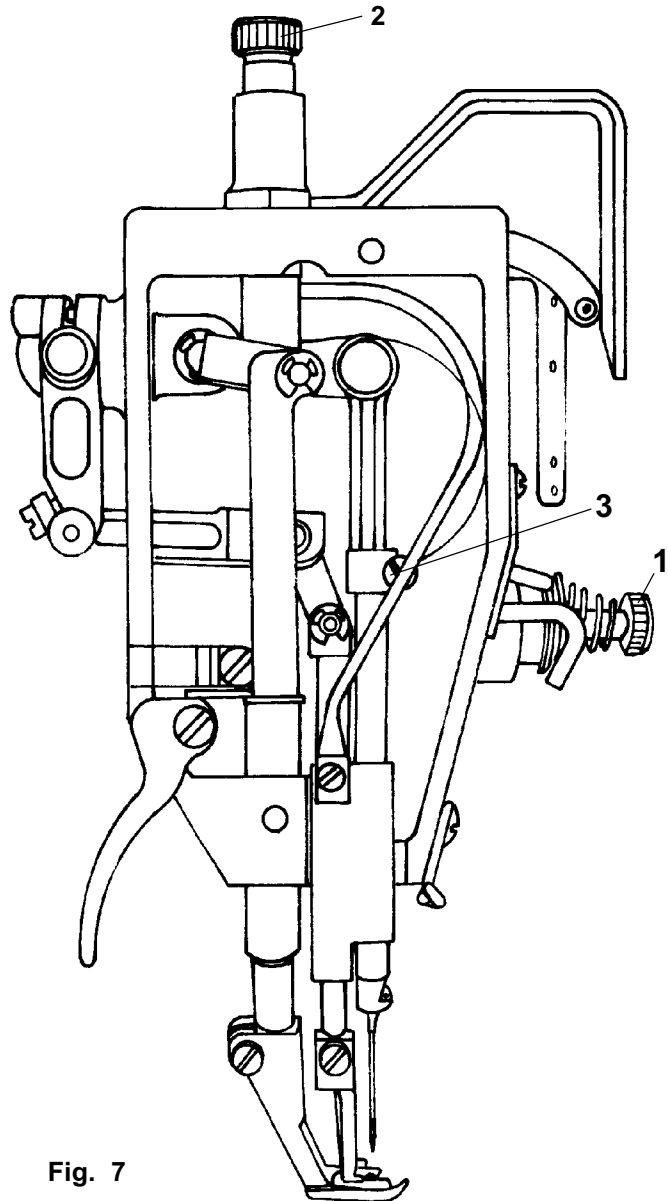

Fig. 7
3. Thread tension adjustment (Fig. 7, 7a)
4. To adjust the presser bar pressure (Fig. 7)
9. To adjust the needle bar height (Figs. 7 and 10)
The hook must be so interrelated with the needle that at the moment when the hook point begins to take up the upper thread loop, the upper edge of the needle eye comes to lie about 1.5 mm under the hook point. If the needle bar height is not adequate to this requirement, loosen the respective screws, remove the front plate, loosen the screw of the needle bar carrier /3, Fig. 7/, adjust the needle bar height correctly, retighten the screw properly, and mount the front plate.